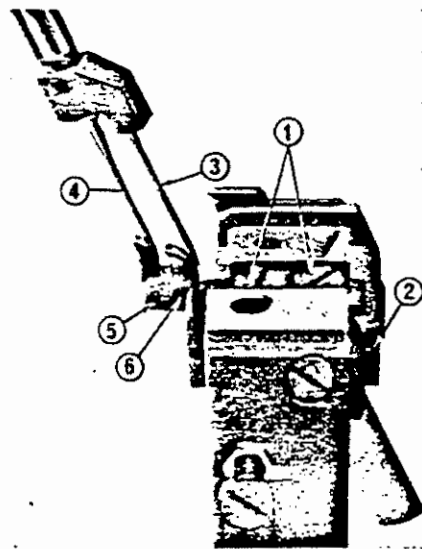

Fig. 24
## 13. Regulating the needle guard (Fig. 24)
If the screws ①, Fig. 24 are loosened, it can be adjusted either forwards or backwards and if the screw ②, Fig. 24 is loosened, it can be adjusted up and down. To make these adjustments, first, when the safety stitching needle ③ reaches its lowest point, see to it that the needle guard moves away from the needle thread to avoid touching it. If the guard touches the needle, either forwards or backwards, adjust it so that the needle will not be curved. Next, adjust the overlock stitching needle ④ by loosening the screws ⑤ and ⑥, Fig. 24.